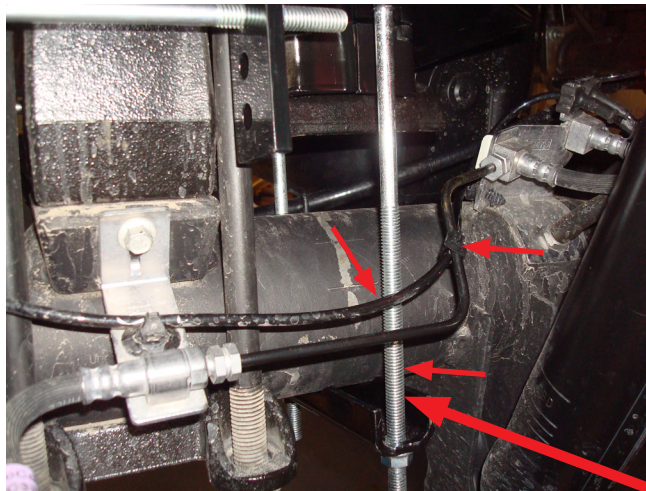
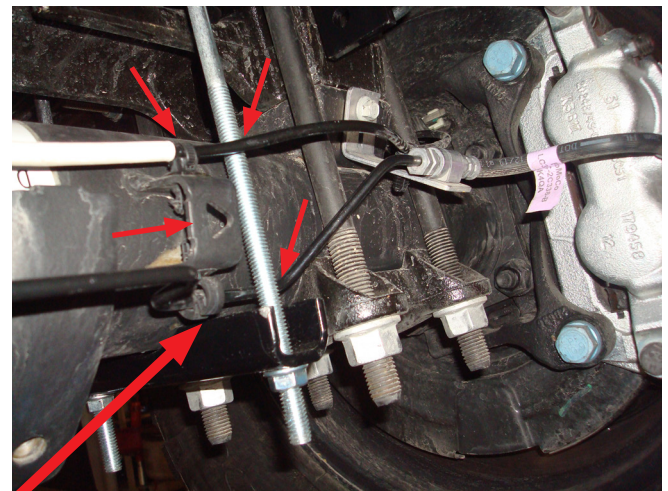

Fig. 22
Fig. 23
*On the driver's (left) side, the long carriage bolt in the lower bracket main plate should be located between the hard brake line and axle (Fig. 22). On the passenger's (right) side, the carriage bolt should be located on the backside of the brake line (Fig. 23).*
On the passenger side, it may be necessary to pull the ABS tree mount out of the top of the bracket. Re-attach by installing the tree mount to the back (Figs. 22 & 23).
PUSH THE HARD BRAKE LINE AWAY FROM THE LOWER BRACKET CARRIAGE BOLT IF THE LINE IS RESTING ON IT (FIG. 22 & FIG. 23).